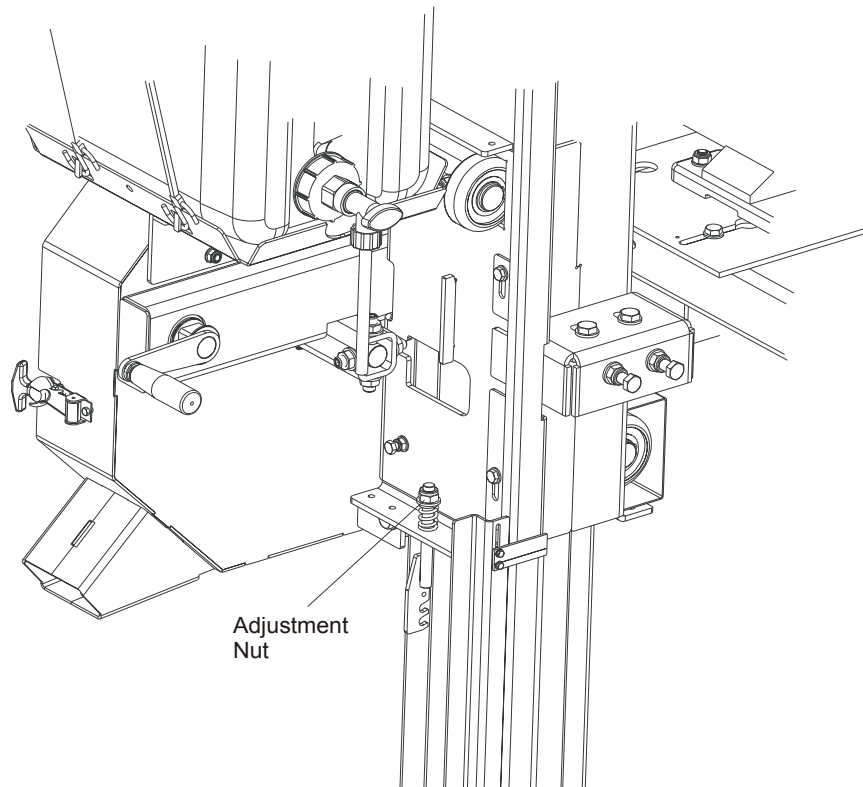

FIG. 3-8
1. Adjust the up/down chain tension as needed. Measure chain tension with the cutting head all the way to the top of the vertical mast. Secure the carriage with a chain at the top, or shim it underneath. Using the adjustment nut shown in Figure 3-8, adjust the chain tension so that there is 1" (2.5 cm) deflection in the center of the chain with a 5 lbs. (2.3 KG) deflection force.
See **Figure 3-8**. Use the adjustment nut shown below to tension the chain.